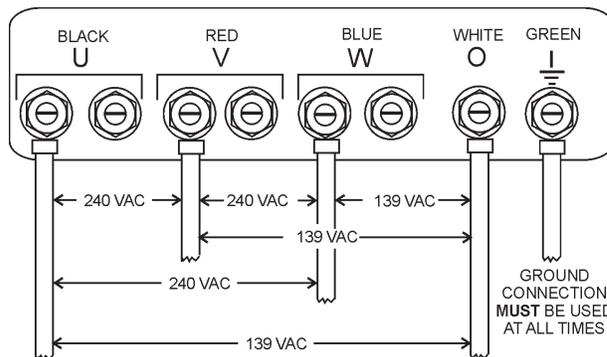

Figure 21. UVWO Terminal Lugs 1Ø-240V/139 Connections
2. Connect the load wires to the UVWO terminals as shown in Figure 21.